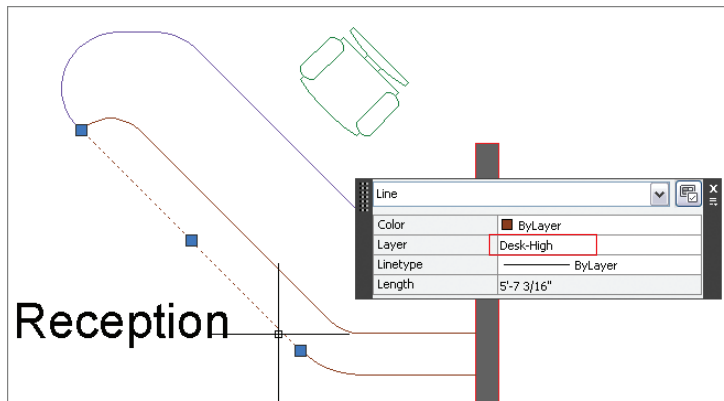

FIGURE 6.2 Targeting an object property using Quick Properties mode
4. Click on the line of the desk immediately adjacent to the Reception text object; the Quick Properties panel appears at the top right of the selected object on the drawing canvas. Click the Desk-High layer name to activate the Layer drop-down menu (see Figure 6.2).